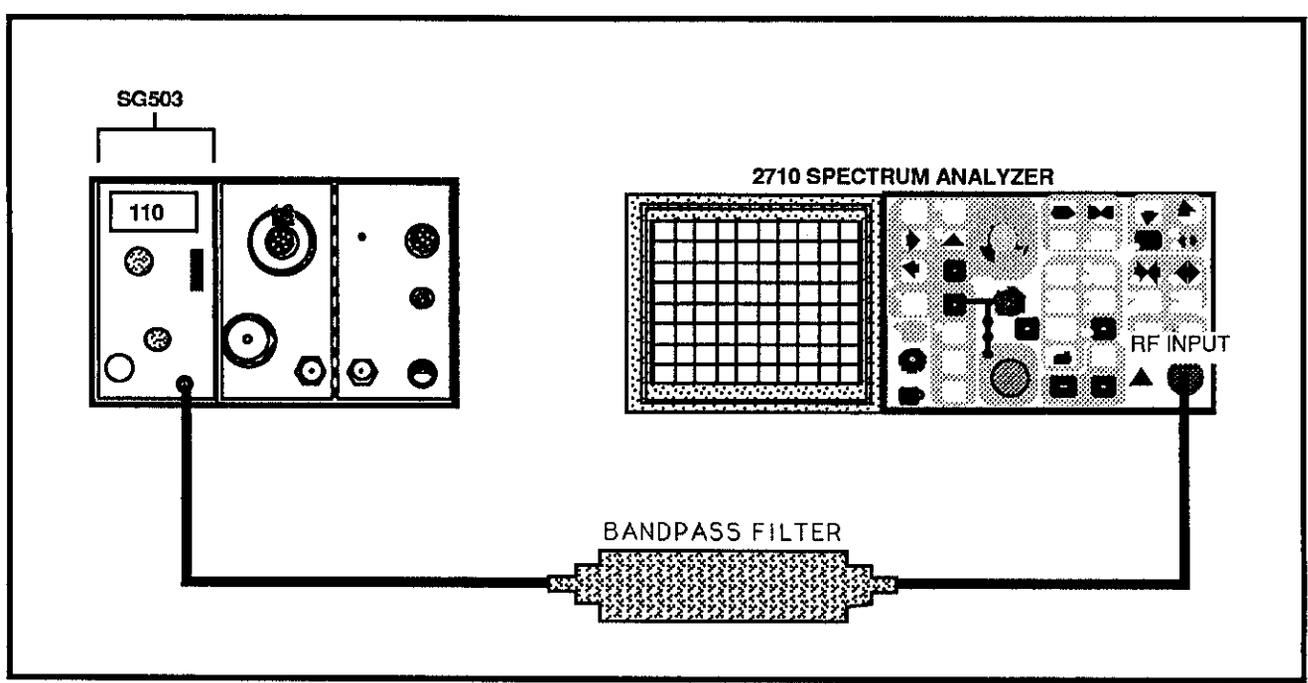

Figure 3-2. Harmonic distortion test equipment setup.
- a. Connect the test equipment as shown in Figure 3-2.